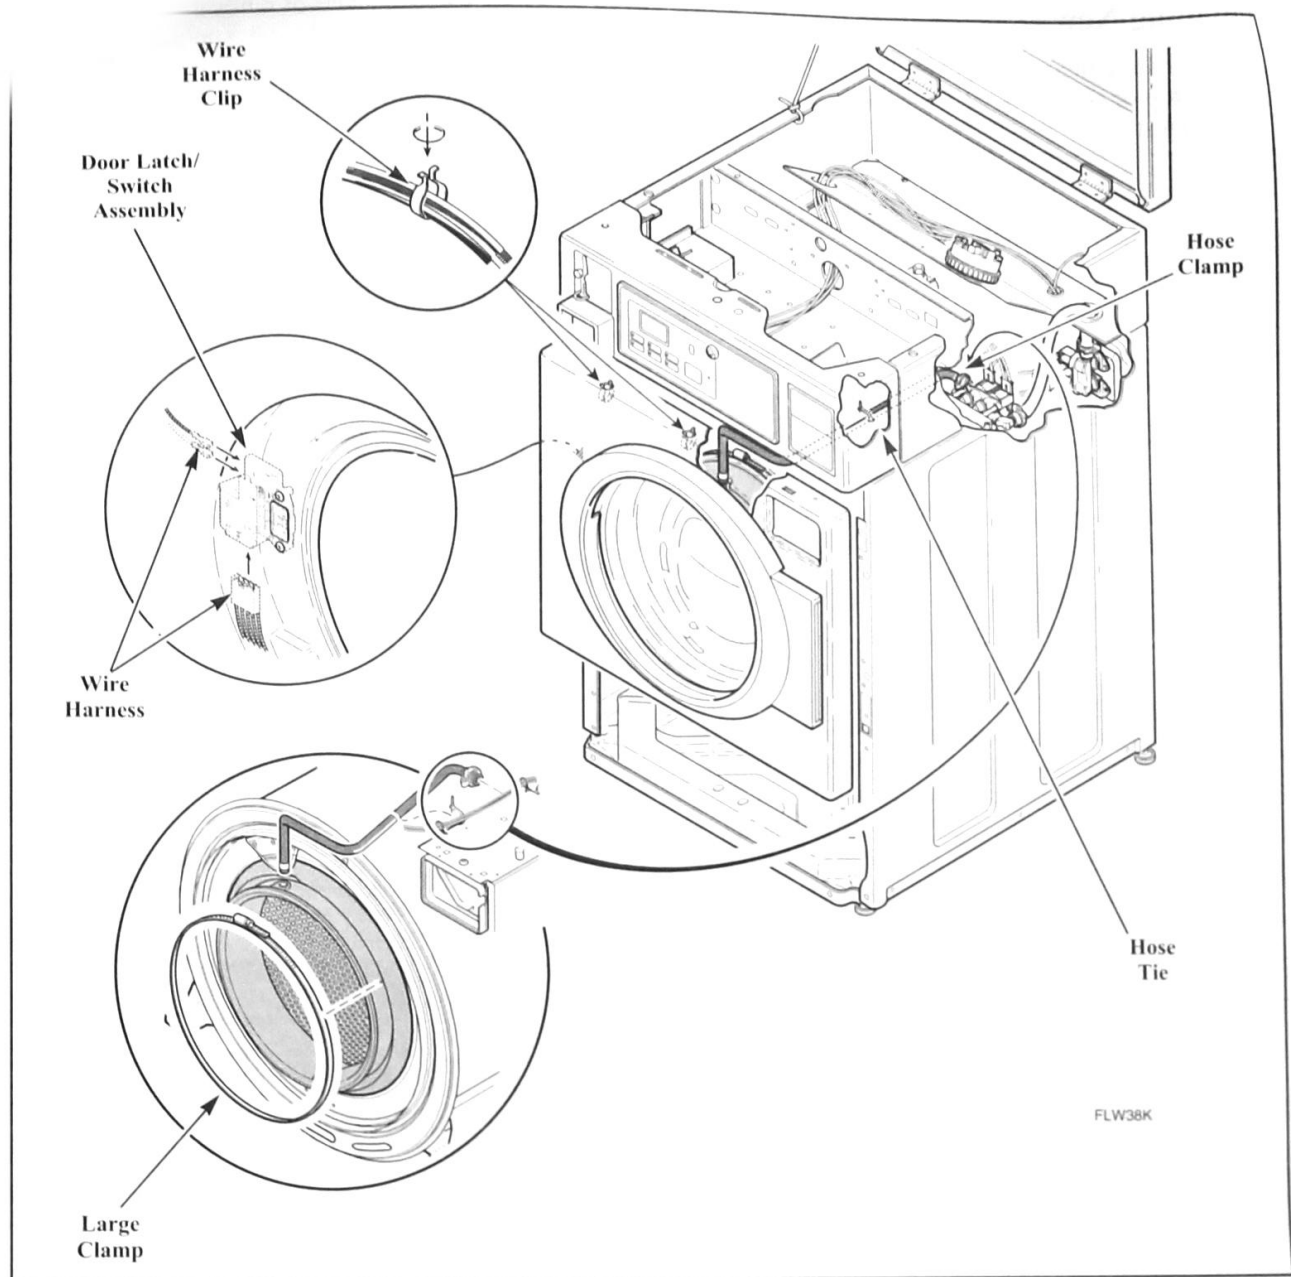

Figure 2
14. Unplug wire harness from door latch/switch assembly. Refer to *Figure 2*.
15. Remove clips holding wire harness and door seal hose along top flange of front panel. Refer to *Figure 2*.
18. Loosen hose clamp and remove dispenser - to - door seal hose connection at dispenser. Refer to *Figure 2*.
19. Loosen large clamp holding door seal to front of outer tub. Refer to *Figure 2*.
7. Reinstall dispenser-to-door seal hose to dispenser. Be sure to reinstall a new hose tie attaching door seal hose to dispenser plate. Refer to *Figure 2*.
- (1) Remove two control panel attaching screws holding control panel to control hood.
- (2) Lay the assembly forward on protective padding on cabinet top.
- (3) Reinstall security bolt.
- (4) Reattach two screws holding control panel to control hood.
10. Reconnect wire harness to door latch/switch assembly. Refer to *Figure 2*. Refer to wiring diagram when reconnecting door lock wires.
11. Place door seal hose and wire harness in appropriate clips and holes along top flange of front panel. A large wire clip holds both wire harness and door seal hose. Refer to *Figure 2*.